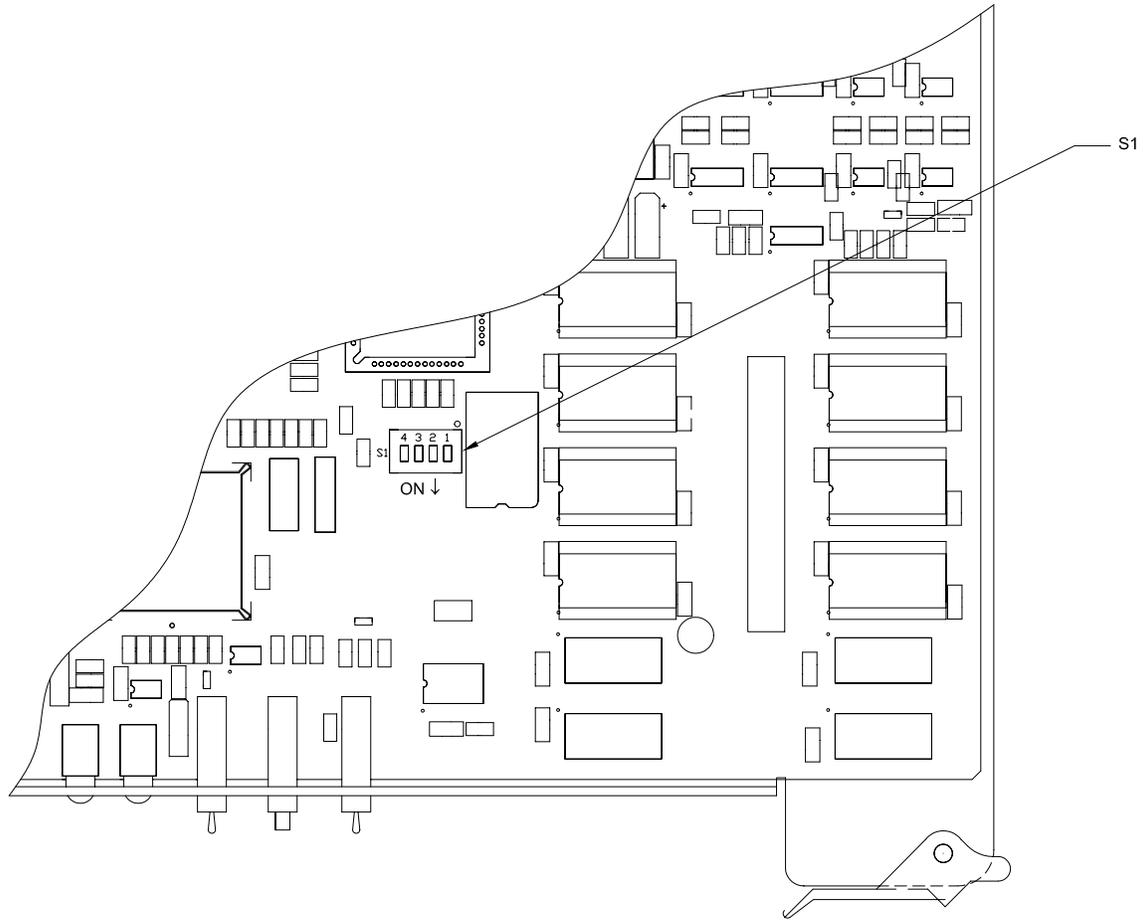

Figure 35. 3500Plus S1 (Operational Mode/Config Bypass/Comm Rate)
2. Remove the 3500Plus from the chassis to allow access to switch S1 (see Figure 35 on page 30). Set switch S1-2 to the ON position in accordance with Table 10 on page 31.